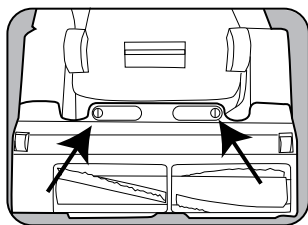

Fig. 1
2. Remove the two screws holding the bottom plate in place (Fig. 1).